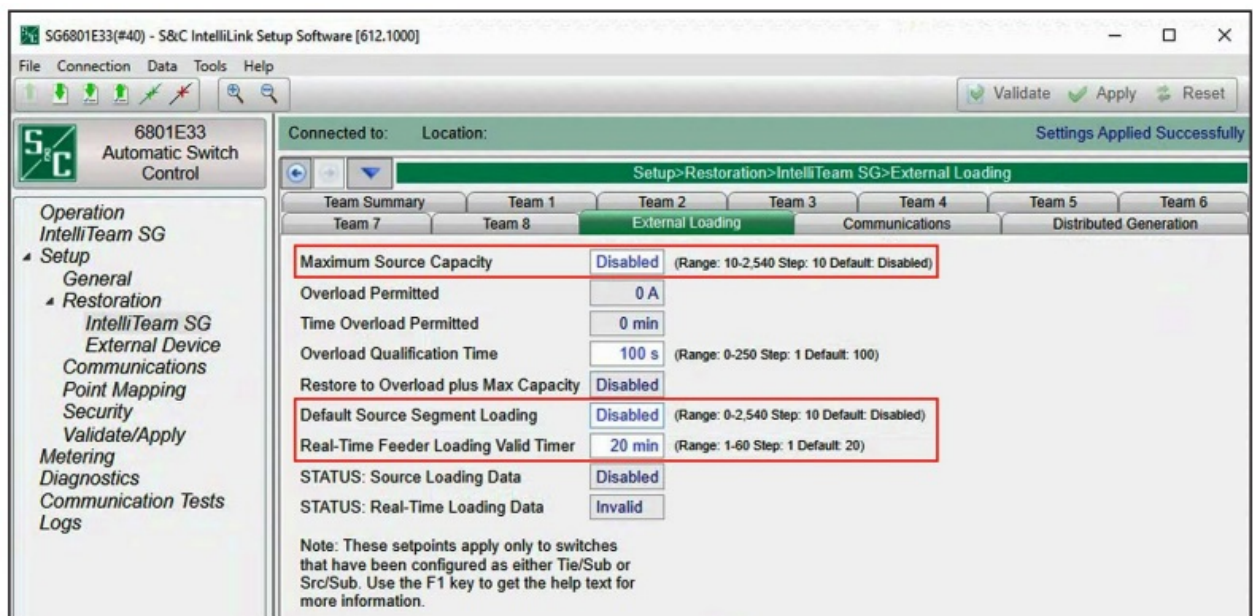

Figure 2. The Setup>Restoration>IntelliTeam SG>External Loading screen.
- Parameters associated with Real-time Feeder Loading are the Maximum Source Capacity, Default Source Segment Loading, and Real-time Feeder Loading Valid Timer settings. These settings are only configured at the team member closest to the substation. This is the team member configured as the Source/Sub or Tie/Sub switch. Use of the Real-time Feeder Loading feature is optional in the IntelliTeam II system. When these parameters are not configured (left at default settings), the IntelliTeam II system uses the Maximum Capacity setting associated with the first switch outside the substation as the maximum source capacity. In this case, loading between the substation and the first switch will not be included in the available source capacity calculation. When using the Real-time Feeder Loading feature, four settings must be configured. Three settings are on the Setup>Restoration>IntelliTeam SG>External Loading screen. The fourth setting is configured through the SCADA system. See Figure 2.